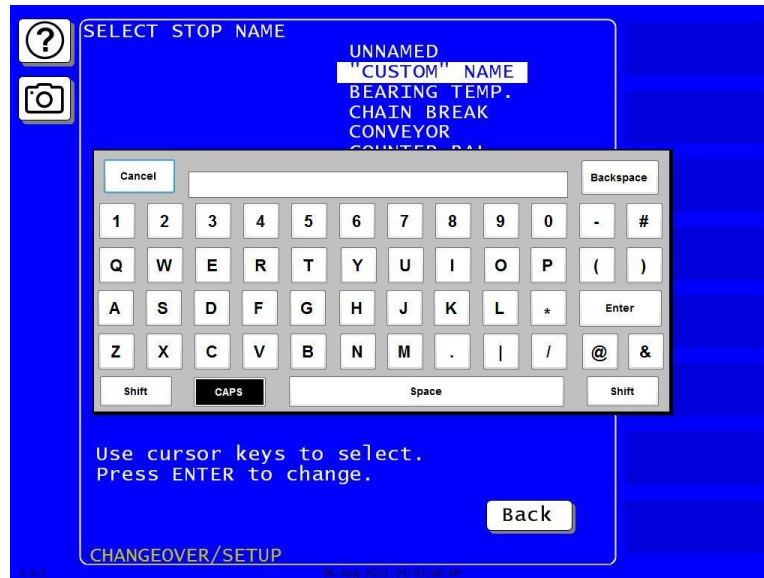

Figure 3-8. SmartPAC PRO On-screen Keyboard
- If you want to enter a name that does not appear in the list, select “CUSTOM” NAME and press ENTER. When the On-screen Keyboard appears (Figure 3-8), key in the name. Press ENTER to accept your entry. You are returned to the Select Stop Name screen.